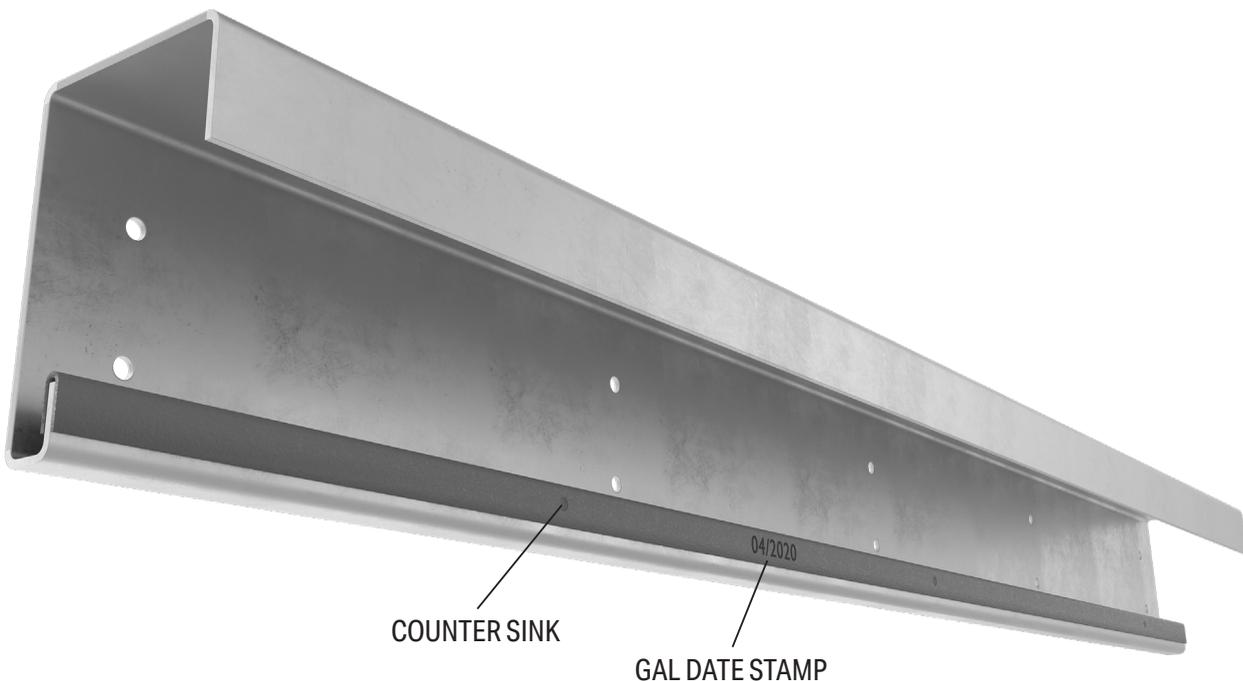

Figure 4: G.A.L. Track Proper Placement
- With the correct track, place it approximately the same location as the plastic liner, with the countersink holes and "GAL" engraving facing outward, *Figure 4*.